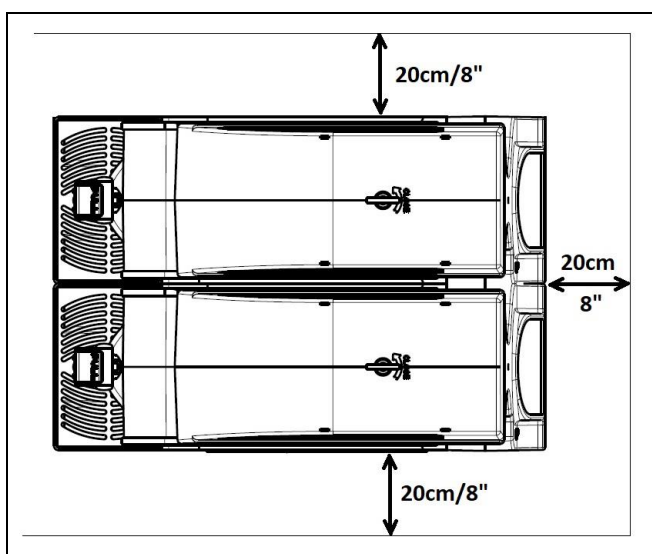

Fig. 14
- b) Rest the machine on a sturdy, flat surface making sure it is well ventilated by leaving a gap of 20cm/8" all around it and do not install it near heat sources (fig.14); **we recommend you to maintain a room temperature between 24 and 38°C (between 75 and 100°F).**